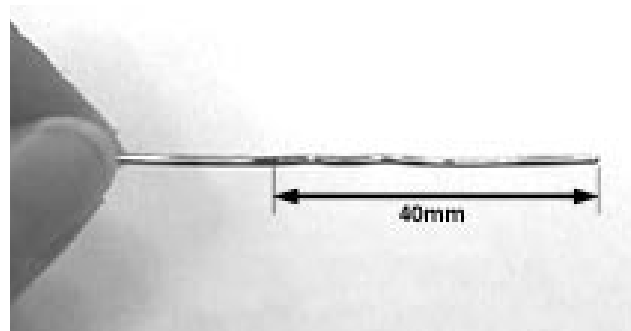

Figure 1
- 3) Take a paper clip or any stiff wire diameter of 1mm-1.5mm and make a marking about 40mm from the tip as shown in Figure 1.